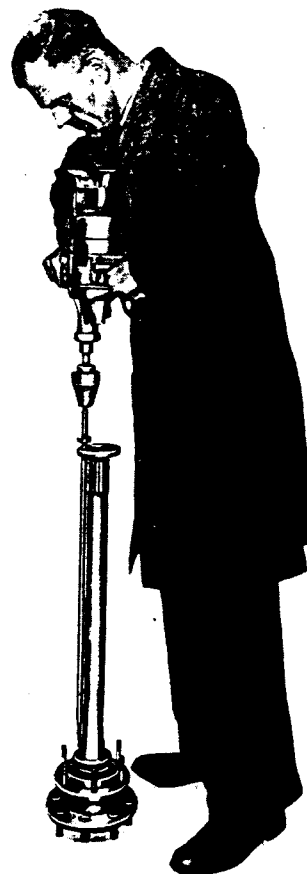

FIG. 3
2. Up-end shaft assembly and drill through collar as shown in Fig. 3, using aligning jig and extension drill FT.26B. Place plain locating ring over shaft on collar and pegged ring over shaft nose, with pegs located between splines to align top and bottom of extension drill, then drill as far as permitted by stop collar on drill extension.